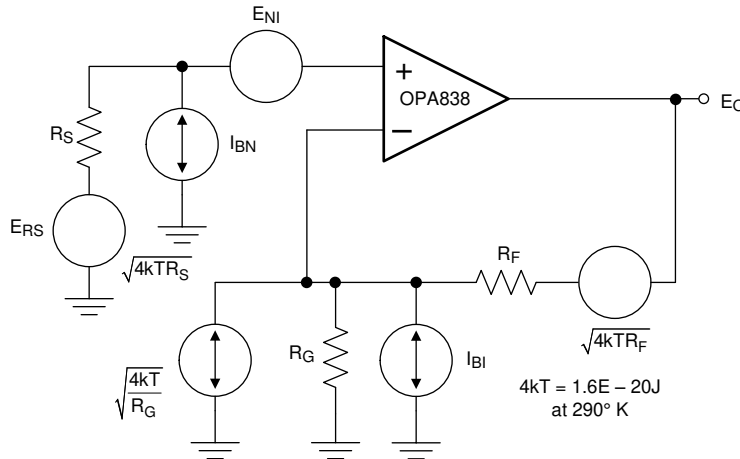
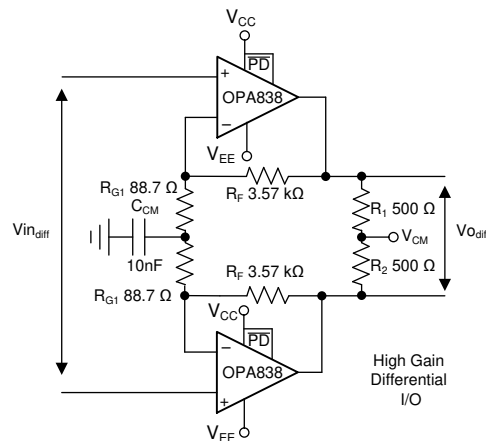
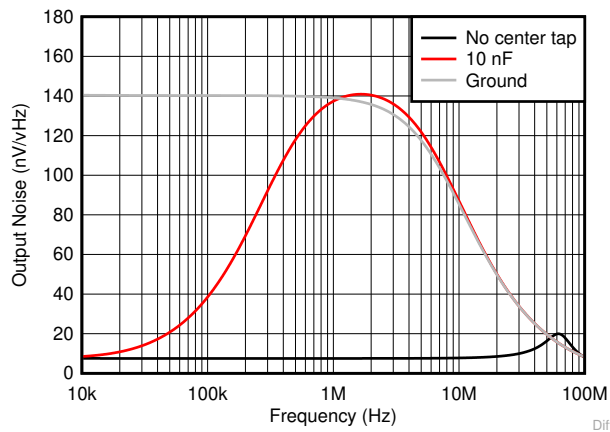

图 8-3. Op-Amp Noise-Analysis Model
图 8-4. High-Gain Differential I/O Stage
图 8-5. Common-Mode Output Noise for Differential I/O Design
The decompensated voltage feedback of the OPA838 op amp offers among the lowest input voltage and current noise terms for any device with a supply current less than 1 mA. 图 8-3 shows the op amp noise analysis model that includes all noise terms. In this model, all the noise terms are shown as noise voltage or current density terms in nV/√Hz or pA/√Hz.
The total output spot noise voltage is computed as the square root of the squared contributing terms to the output noise voltage. This computation is adding all the contributing noise powers at the output by superposition, then taking the square root to return to a spot noise voltage. 方程式 3 shows the general form for this output noise voltage using the terms presented in 图 8-3.
A high-gain differential-to-differential I/O circuit can be used to drive a second-stage FDA or a differential-to-single-ended stage. This circuit is frequently used in applications where high input impedance is required (for example, if the source cannot be loaded). 图 8-3 illustrates an example design where the differential gain is 41 V/V. An added element between the two R_G resistors increases the noise gain for the common-mode feedback. Make sure to provision for the added element; otherwise, a decompensated VFA (such as the OPA838) often oscillates. With only the R_G elements in the differential I/O design, the common-mode feedback is
As an example design, start with the circuit in 图 8-4.
- Assess the DC common-mode biasing on the noninverting inputs. The DC biasing must be in range and have a gain of 1 to the output. This is not illustrated in 图 8-3.
- If a DC reference is used as the mid- R_G bias, setting the reference equal to the noninverting input bias voltage sets the output common-mode to that voltage. Using a capacitor as illustrated in 图 8-3 accomplishes the same results.
- Set the total R_G value near the high gain values using 表 8-1. This 178- Ω total must be split for a center tap to increase the common-mode noise gain, as shown by the 88.7- Ω value in 图 8-4.
- Simulate the common-mode noise with different elements on the R_G center tap as shown in 图 8-5. Decide which is most appropriate to the application.
The common-mode loop instability without the R_G center tap is not often apparent in the closed-loop differential simulations. The common-mode loop instability without the R_G center tap can often be detected in a common-mode output-noise simulation as 图 8-5 shows. Grounding the inputs 图 8-4 and running an output-noise simulation for the common-mode tap point in 图 8-3 shows a peaking in the noise at high frequency. This peaking indicates low-phase margin for the common-mode loop. 图 8-5 shows this peaking in the lowest noise curve, with two options for improving phase margin. The first option used in 图 8-4 is a capacitor to ground set to increase the common-mode noise gain only at higher frequencies. This increase can be seen by the peaking in the common-mode noise of 图 8-5. Another alternative is to provide a dc voltage reference on the R_G center tap. This method raises the common-mode noise gain from dc and beyond. Neither of these latter two options show any evidence of low phase-margin peaking. These two options do increase the output common-mode noise significantly at lower frequencies. Typically, an increase in output common-mode noise is more acceptable than low-phase margin because the next stage (FDA, ADC, differential to single stage) rejects common-mode noise.